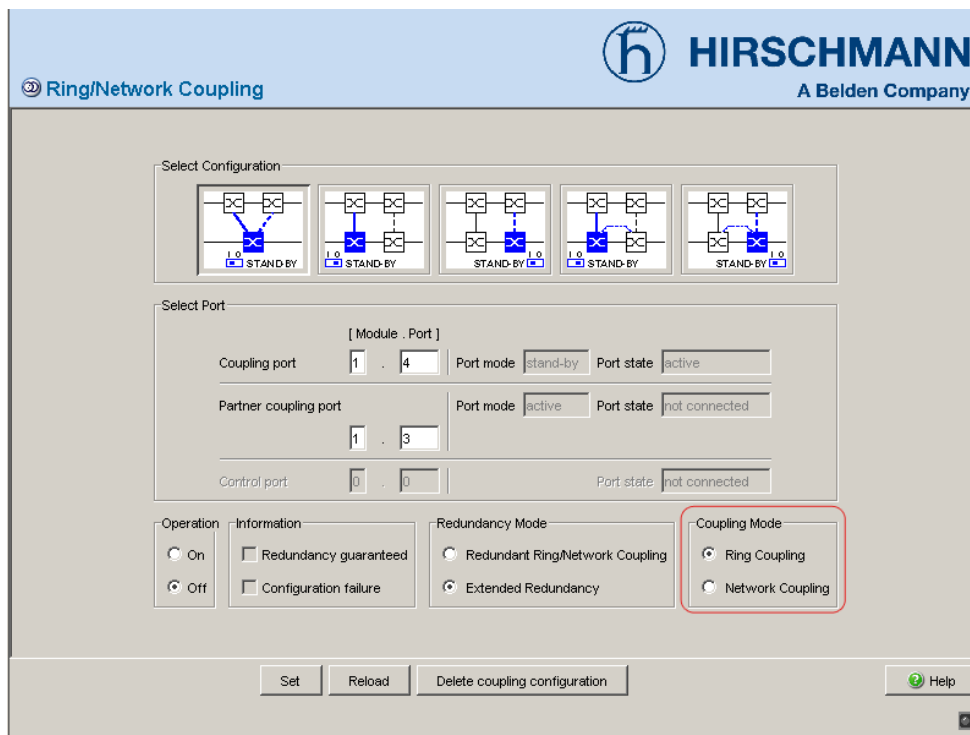

Figure 44: Selecting the coupling mode
- In the “Coupling Mode” frame, select (see fig. 44)